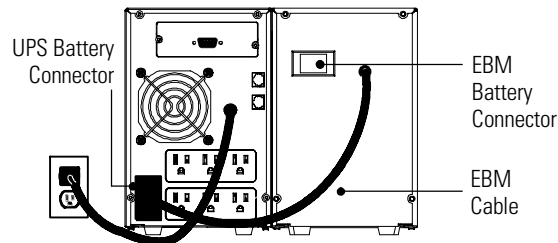

Figure 19. EBM Connections (120V Model Shown)
- Plug the new EBM into the UPS as shown in Figure 19.